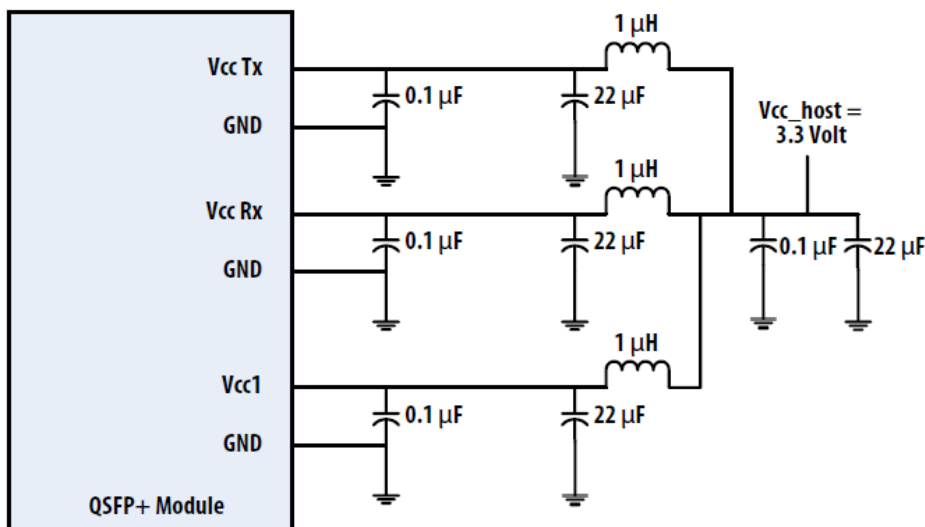

Figure 4. Recommended Power Supply Filter
2. VccRx, Vcc1 and VccTx are the receiver and transmitter power suppliers and shall be applied concurrently. Recommended host board power supply filtering is shown in Figure 4 below. Vcc Rx, Vcc1 and Vcc Tx may be internally connected within the QSFP+ transceiver module in any combination. The connector pins are each rated for a maximum current of 500mA.